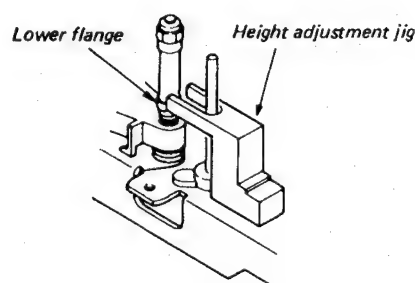

Fig. 1-3-19 No. 3 guide preset
2. After the replacement, preset height of the lower flange as shown in Fig. 1-3-19, using the guide height gauge.
3. After completion of preset, perform adjustments by following the procedures for Linearity Adjustment, item 3) of the Tape Transport Adjustment. (Refer to 1-4-4 (2).)